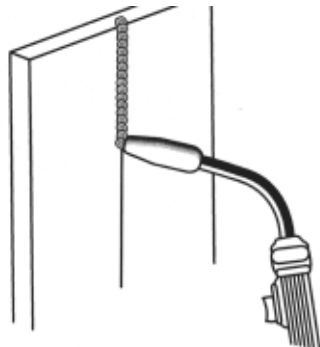

Figure 23. Vertical Position
3. The **VERTICAL POSITION** (Figure 23) is the next most difficult position. Pulling the gun from top to bottom may be easier for many people, but in some instances it can be difficult to prevent the puddle from running downward. Pushing the gun from bottom to top may provide better puddle control and allow slower rates of travel speed to achieve deeper penetration. When vertical welding, angle B (see **HOLDING THE GUN** - p.19) is usually always kept at zero, but angle A will generally range from 45 degrees to 60 degrees to provide better puddle control.